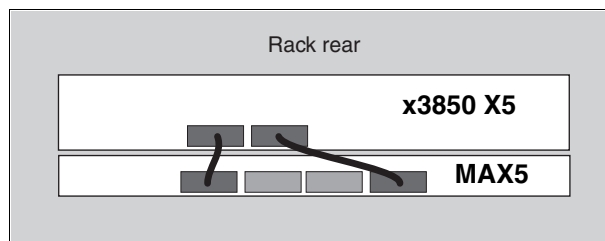

Figure 6-8 QPI cable installation
- ▶ There are four QPI cables connecting all of the QPI ports of the x3850 X5 to all of the QPI ports on the MAX5. Figure 6-8 shows how to connect the cables between the QPI ports of the two units.